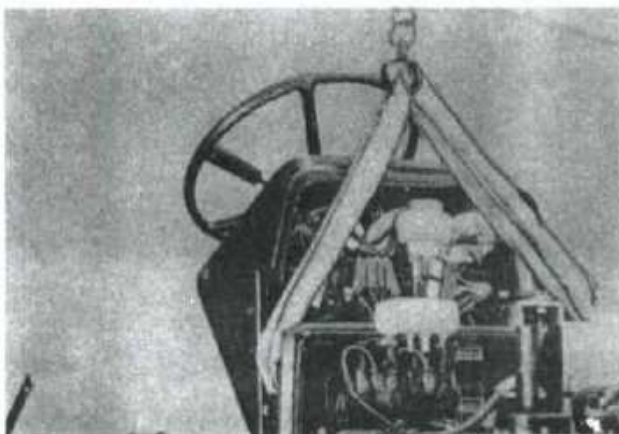

Fig. 102—Attach sling and hoist as shown to remove steering support assembly.
**109. R&R AND OVERHAUL.** To remove the Forward-Reverse unit, speed gearbox must be removed from tractor. To remove the speed gearbox, first remove cab and fuel tanks or fenders, tank and platform, as equipped, as outlined in paragraph 145 or 144. Remove plugs and drain fluid from speed gearbox and rear frame. Remove front drive axle drive shaft and shield if so equipped. Unbolt and remove pto clutch cover from bottom of rear main frame. Drive roll pin from pto clutch and shaft. Unbolt lower pto shaft cover or seal housing, as equipped, and remove with gasket from rear of tractor. Have helper support the pto clutch. Withdraw lower pto shaft and remove pto clutch. Unbolt and remove bottom core plate and regulator valve as outlined in paragraph 107. Remove oil inlet tube from Forward-Reverse clutch housing. Disconnect 1st-2nd and 3rd-4th selector rods from gear selector levers. Disconnect all interfering hydraulic lines and wiring. Using a sling and hoist (Fig. 102), lift off steering support assembly. Remove right and left brake pipes. Remove steering supply and return pipes and oil cooler supply and return pipes. Plug or cap all openings immediately to prevent foreign material from enter-